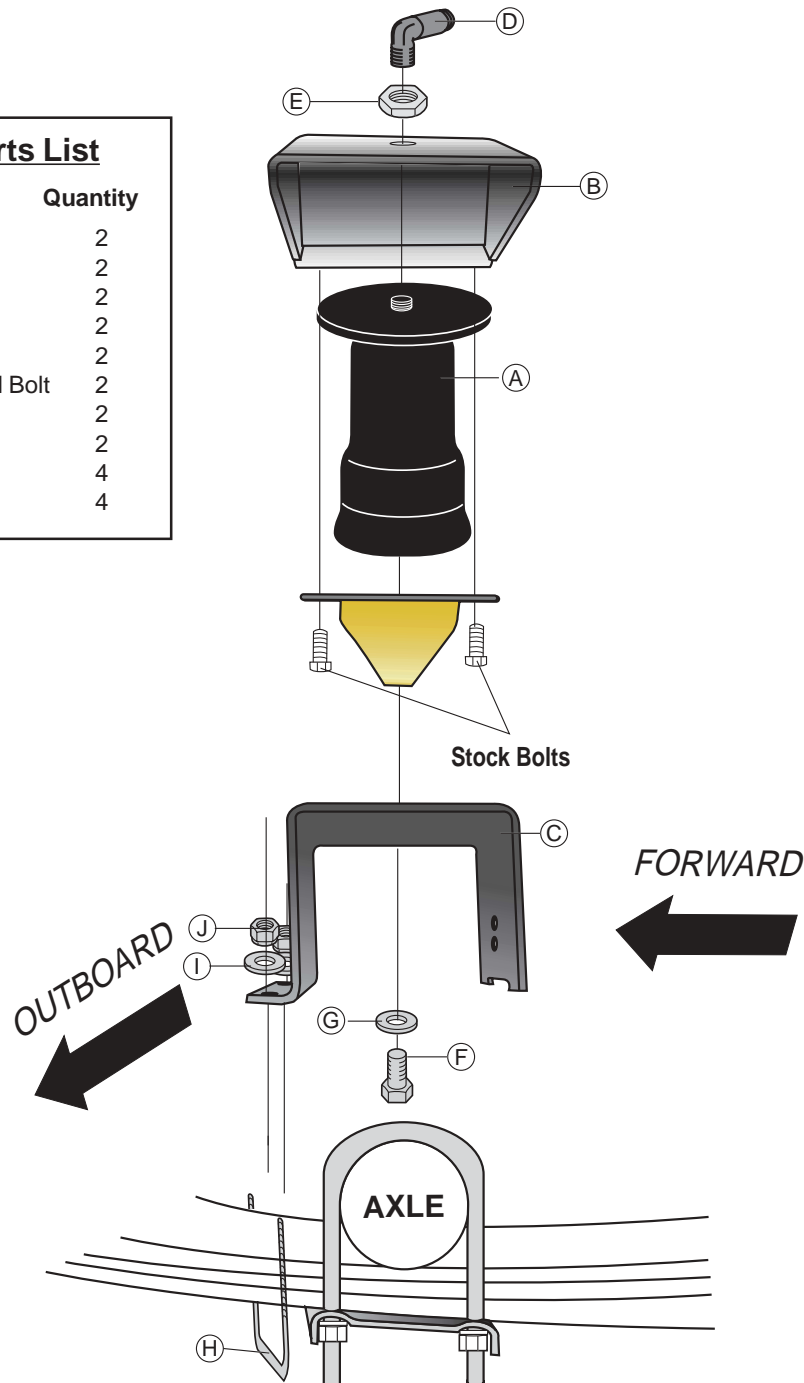

Figure 1
4. Set the air sleeve assembly in place over the axle (Figure 1).
If the vehicle's headlights are shining into the trees or the vehicle is leaning to one side, then it is not level (fig. 1). Raise the air pressure to correct either of these problems and level the vehicle.